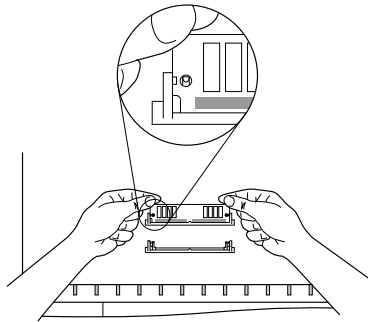

Figure 4. Installing Memory Module
10. Position one of the memory modules above the rear socket, with the memory chips facing you and the connectors down. (See figure 4.)